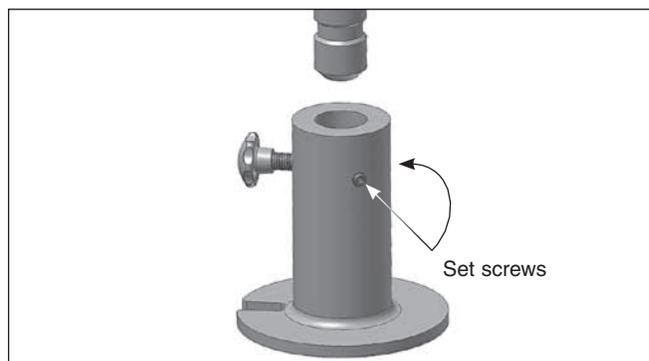

Fig. 1.2.
1.2. Install the two large setscrews and hand knob into base (**Fig. 1.2**). Use the 4mm Allen wrench to thread in the set-